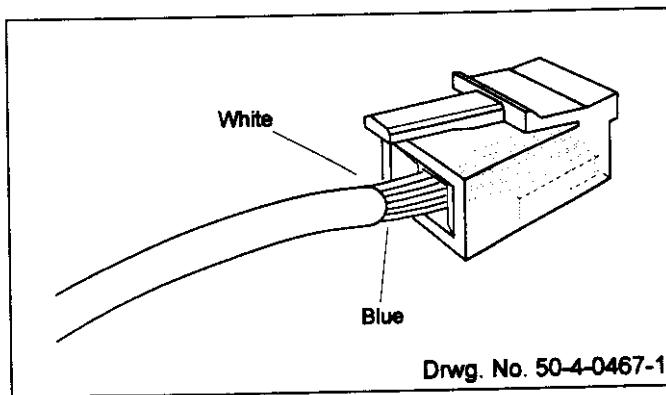

Figure 3.5: Connector for 4-wire + E and M Socket
**Note:** The wiring colours in Figure 3.5 are for the connector on the Exicom supplied cable.